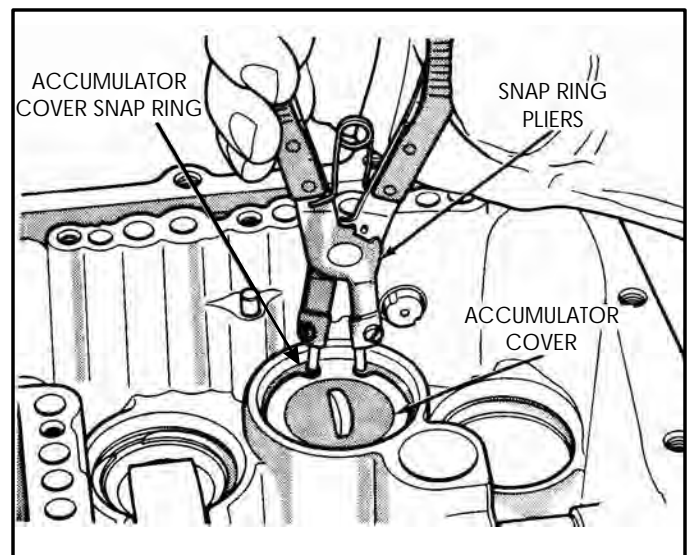

Figure 215
10. Install the accumulator cover, compress against spring and install snap ring using the snap ring pliers shown in Figure 215.